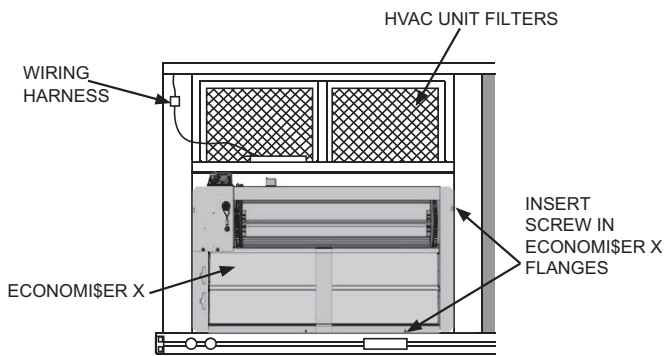

Fig. 3 — EconoMiSer® X Installed on HVAC Unit (CRECOMZR076A00 Shown)
4. Slide the EconoMi\$er X assembly into the rooftop unit. See Fig. 3.
5. Ensure EconoMiSer X assembly is square. Screw the EconoMiSer X system to the unit along both side flanges and bottom flange. See Fig. 3.